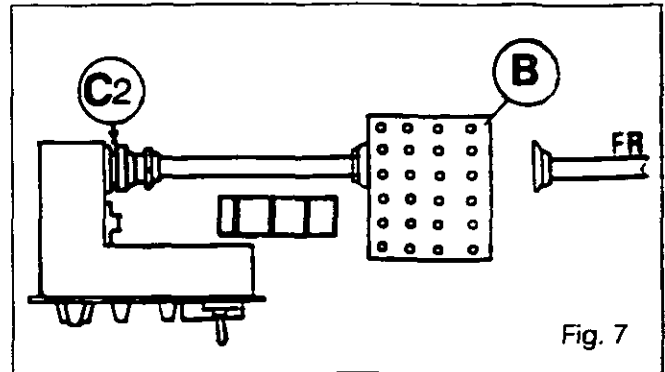

Fig. 7
Connect tester (B) to connector (C2) (see Fig. 7)
Connect tester (B) to connector (C2) (Fig. 7).